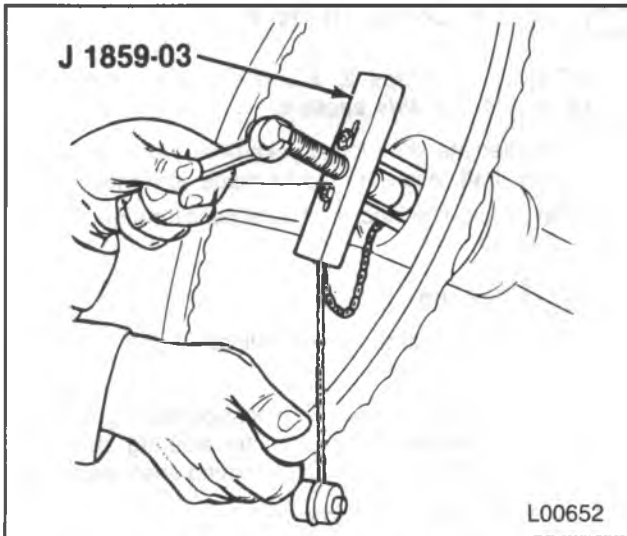

Figure 4 — Steering Wheel Removal
↔ Remove or Disconnect (Figure 4)
5. Steering wheel. Use J 1859-03 (figure 4). Do not hammer on the puller, or damage could result to the steering column.